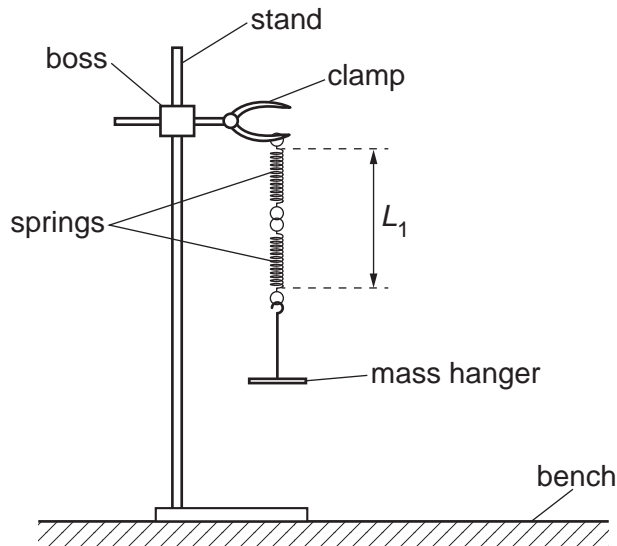

Fig. 2.1
(a) (i) • Set up the apparatus as shown in Fig. 2.1.
- The length L_1 of the spring combination is measured from the top coil of the top spring to the bottom coil of the bottom spring, as shown in Fig. 2.1.